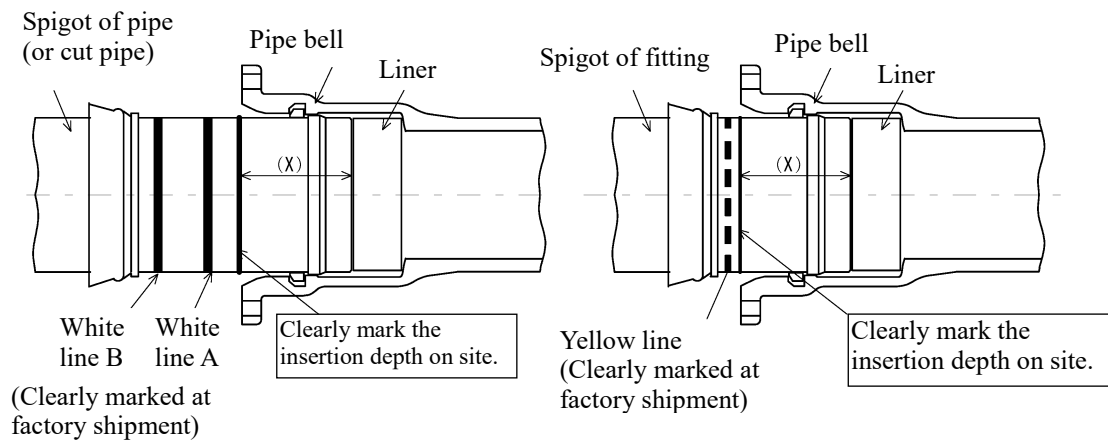

Figure-33 Marking of insertion depth
- (4) Follow "3. Installing the lock ring" through "4. Installation of the rubber gasket and backup ring" in "II. NS Pipe assembly procedure".
- (5) Follow "1. (2) Marking the depth of spigot insertion" through "1. (4) Checking the lock ring position" in "III. NS Fitting assembly procedure". Figure-33 shows where to mark white lines on the spigot to confirm the insertion depth.